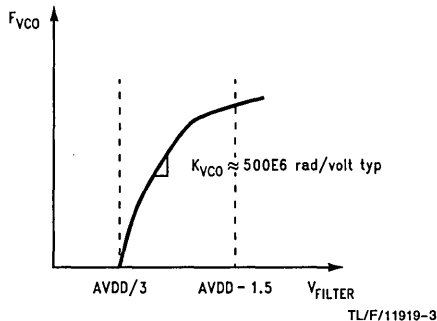

FIGURE 3-1. Linear Operating Range
- Figure 3-1 Linear Operating Range
Normal, or linear VCO operation will place the input voltage range from $AVDD/3$ (the lowest frequency response) to approximately $AVDD - 1.5V$ (the highest frequency response). The linear operating range is illustrated in Figure 3-1 with VCO output frequency (F_{VCO}) expressed as a voltage filter input (V_{FILTER}).